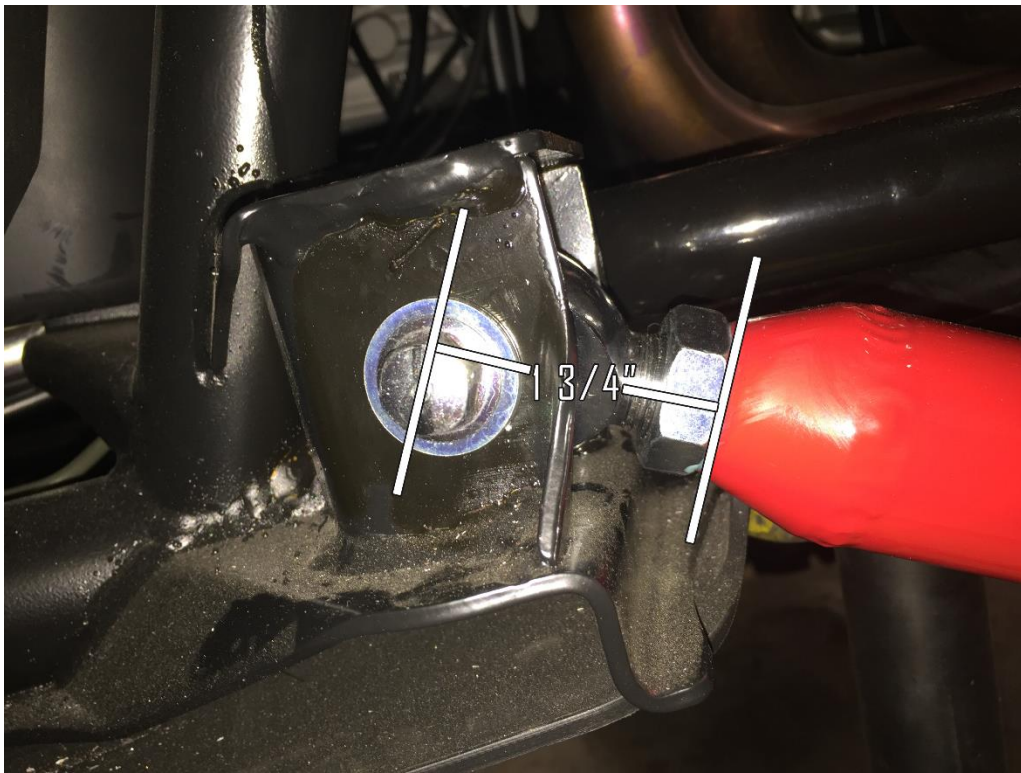

Figure 2-1
- Set rear lower rod ends to the following specs(fig 2-1):